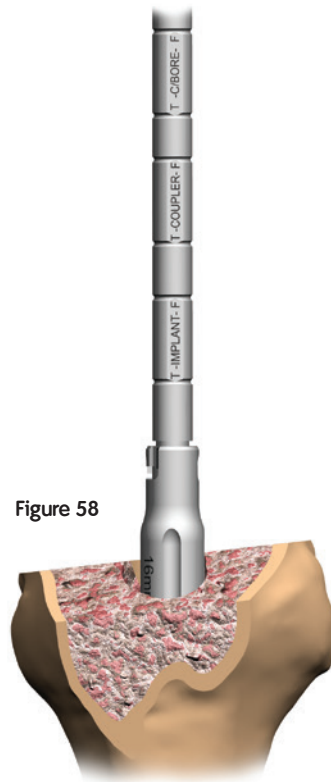

Figure 58
14. Place the Trial Stem Guide Assembly into the femoral canal (Figure 58).